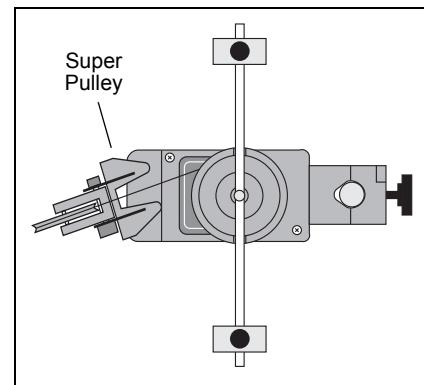

Figure 1.2: Super Pulley Position
**Note:** The Super Pulley with Clamp must be adjusted at an angle, so that the thread runs in a line tangent to the point where it leaves the 3-step Pulley and straight down the middle of the groove on the clamp-on Super Pulley (Figure 1.2).